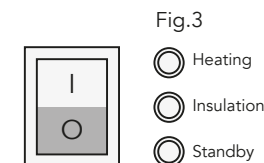

Fig.3
4) Always keep an eye on the fuser during initial warm-up. We always recommend using the timer so that the fuser turns off after the set time. (Fig.3)